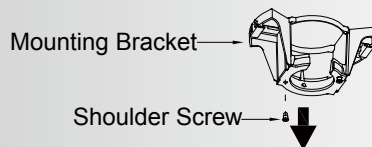

Fig. 15
Step 1. Remove one of the two shoulder screws in the mounting bracket. Loosen the second shoulder screw without fully removing it. (Fig. 15)